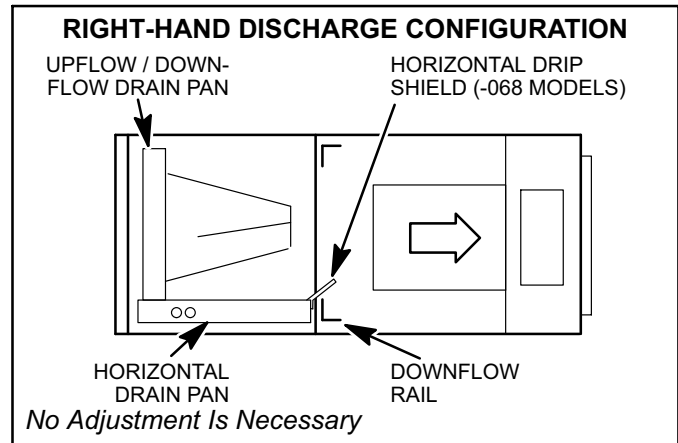

FIGURE 24
- 2- Install the horizontal shield on the front edge of the horizontal drain pan as shown in figure 24.
- 3- No further adjustment is necessary. Set unit so it is sloped toward the drain pan (1/4" [6mm]). See figure 24.